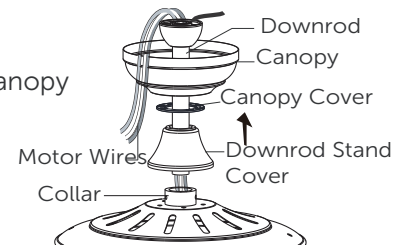

Fig. 4a
4. Thread the motor wires and safety cable through the downrod stand cover, canopy cover, canopy and downrod (Fig. 4a).